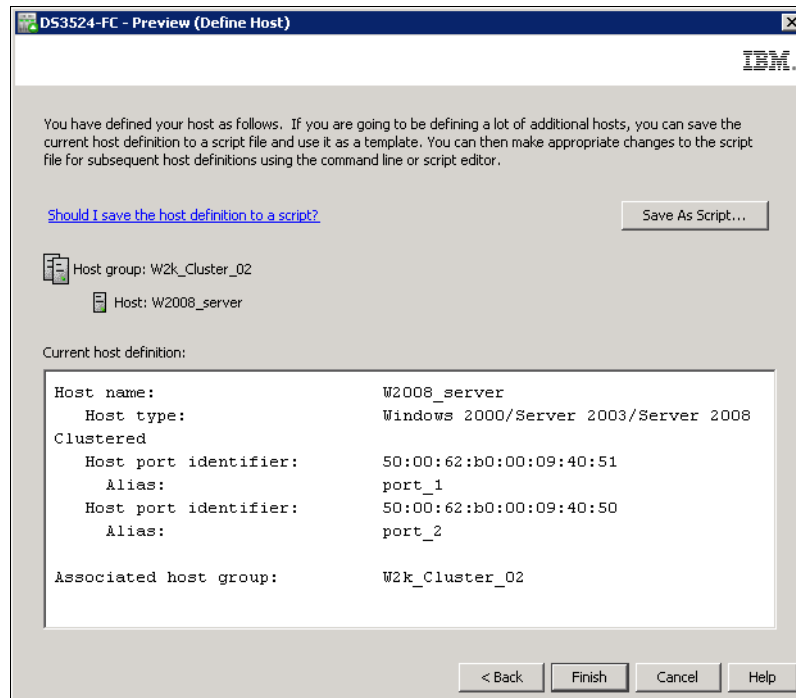

Figure 11-10 Define Host: new Host definition Preview
8. Finally, you have a chance to preview the new host definition (Figure 11-10 on page 284). If all the selections are correct, click **Finish** to define the new host. Note that you can save the host definition as a script file for SMcli by clicking the **Save As Script** button in the upper right corner of this window. You can use this script command to easily change the host definition for mapping copies of logical drives in high level scripts for disaster recovery.